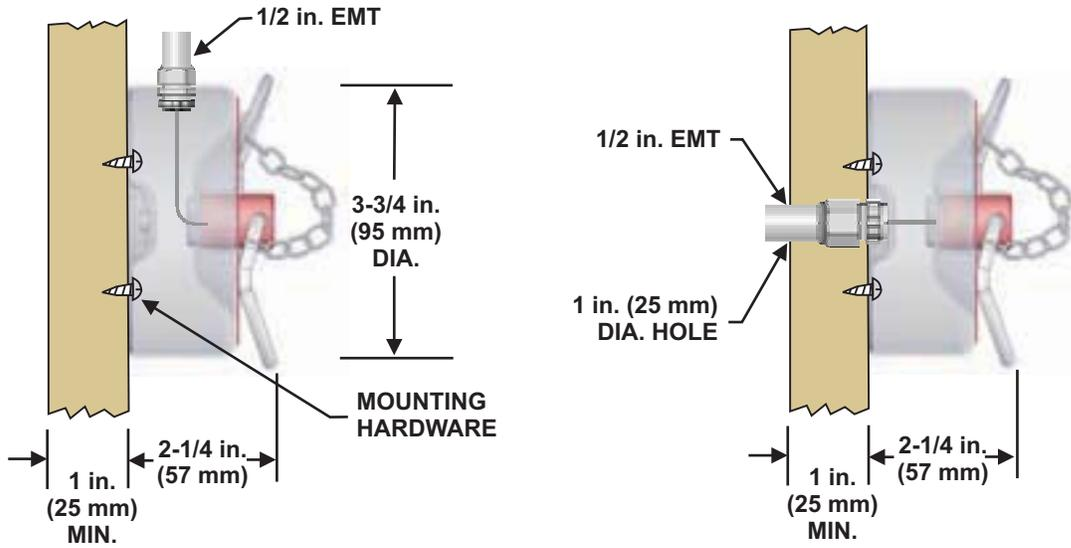

Figure 4-56. Installing the Remote Manual Release, P/N B875572
1. Attach a length of 1/16-inch steel cable to the Remote Manual Release handle, as follows (refer to Figure 4-56):